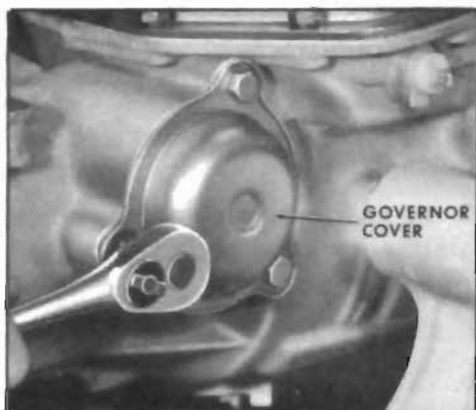

Figure 5-352
2. Install governor gasket and cover to case. Torque bolts to 8-12 ft. lbs. See Figure 5-352.